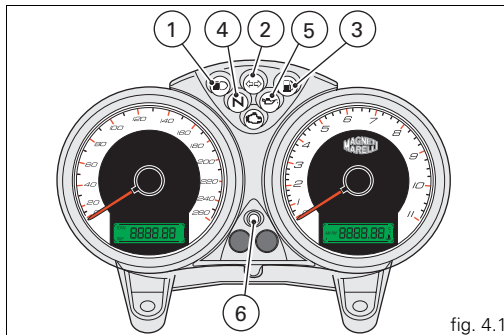
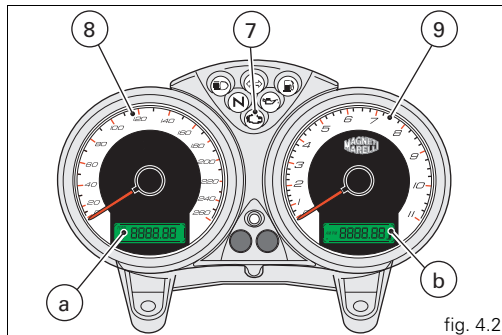
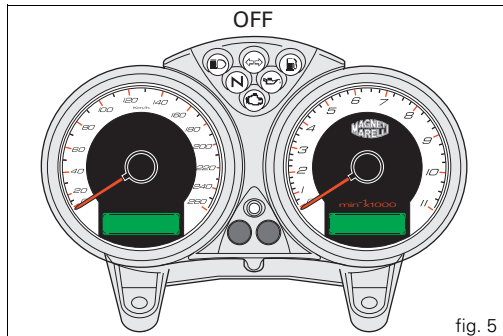
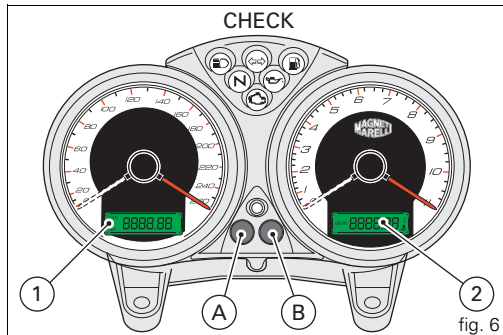

fig. 4.1
fig. 4.2
fig. 5
fig. 6
## Instrument panel (fig. 4.1 and fig. 4.2)
When the engine is switched on (key turned from **OFF** to **ON**), the instrument panel checks all instruments (dials, display, warning lights), see (fig. 5 and fig. 6).
By pressing button (A, fig. 6) with the key turned to **ON**, you can cycle between display of the trip counter and the odometer and, if the fuel level warning light is on, the fuel reserve trip counter.
If button (A, fig. 6) is held pressed for more than 2 seconds while the **TRIP** (trip meter) is active, the display is reset (LCD 1).
If button (B, fig. 6) is pressed with the ignition key at **ON**, the display shows the clock and the oil temperature.
Press (B, fig. 6) for at least 2 seconds and the time will be shown in display (b, fig. 4.2).
Select AM/PM by pressing button (A, fig. 6). Press button (B) to select the hour setting function. Press (A) repeatedly to change the hour indication. Press button (B) to change to the minute setting function.
When the fuel level warning light the word **"FUEL"** will appear on display (2, fig. 6) and the fuel reserve trip counter function will be activated and indicate on display (1, fig. 6) the number of kilometres travelled in reserve preceded by the letter **"F"** (FUEL).
The appearance of the message **"MAInt"** on the display (1, fig. 6) indicates that the recommended service interval has expired: this message will be displayed each time the key is turned to **"ON"** for a period of 5 seconds. When you see this message, you should contact your Ducati dealer or authorised service centre.
Press button (B, fig. 6) within 5 seconds after the ignition key is turned to the **ON** position to adjust the brightness of the backlight. The brightness changes at each press of the button.
In the event of faults in the immobilizer system, the following procedure makes it possible to disable the "engine lock" function, which is indicated by the yellow-amber EOBD warning light (7, fig. 4.1).
The EOBD warning light (7, fig. 4.1) will go off after the pre-set time of 8 seconds.
- 3) Now enter the electronic release code shown on the CODE CARD given to the customer when the motorcycle was handed over by the dealer. The EOBD warning light will light up and start flashing. Count the number of flashes of the EOBD (7, fig. 4.1) light equal to the first number of the secret code. Turn the throttle twistgrip to the fully open position: the digit entered is acknowledged, and the EOBD warning light comes on and stays on for the pre-set time of 4 seconds.